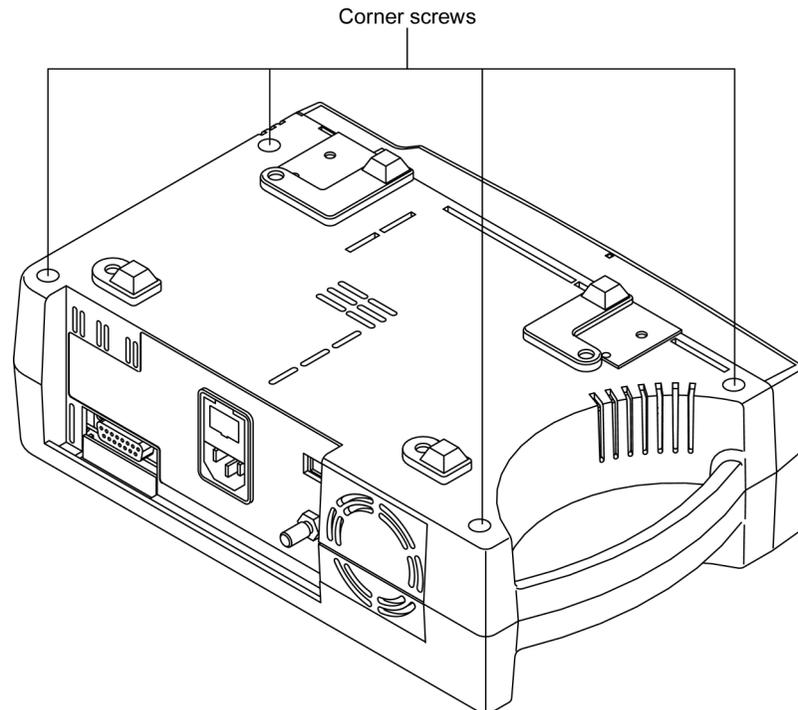

Figure 5: Corner Screws
2. Set the N-595 upside down, as shown in Figure 5.